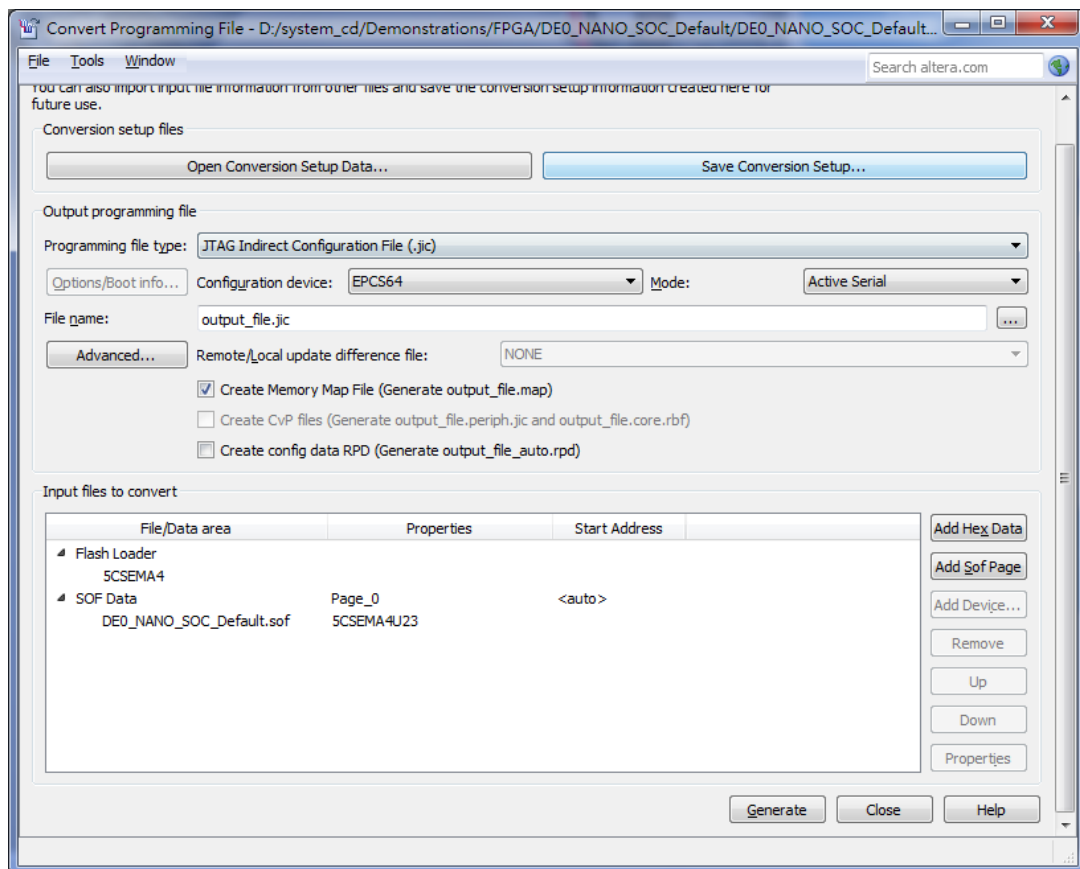

Figure 8-6 “Convert Programming Files” page after selecting the device
14. Click **OK** and the **Convert Programming Files** page will appear, as shown in **Figure 8-6**.